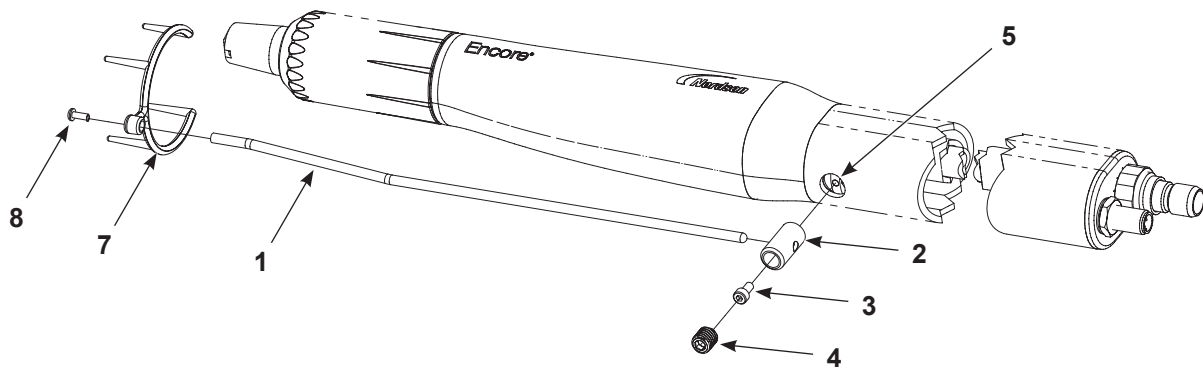

Figure 7 Ion Collector Installation – Tube Mount Gun
**NOTE:** The ion collector mounting hole must be installed towards the front of the gun as shown in Figure 7. If the ion collector hole is installed towards the far rear, it must be reversed to allow access to the grounding plate in the rear body assembly. Perform Steps 1–7 of the tube-mount dis-assembly procedure on page 25 to remove the tube, then turn it around and re-assemble the gun.
1. Remove the plug from the mounting hole (5) if applicable.
2. Secure the post (2) to the grounding plate with the socket head screw (3).
3. Insert the collector rod (1) into the post and secure it with the M10 x 10 nylon-tipped set screw (4).
4. Attach the multi-point tip (7) to the collector rod with the M3 x 8 screw (8).